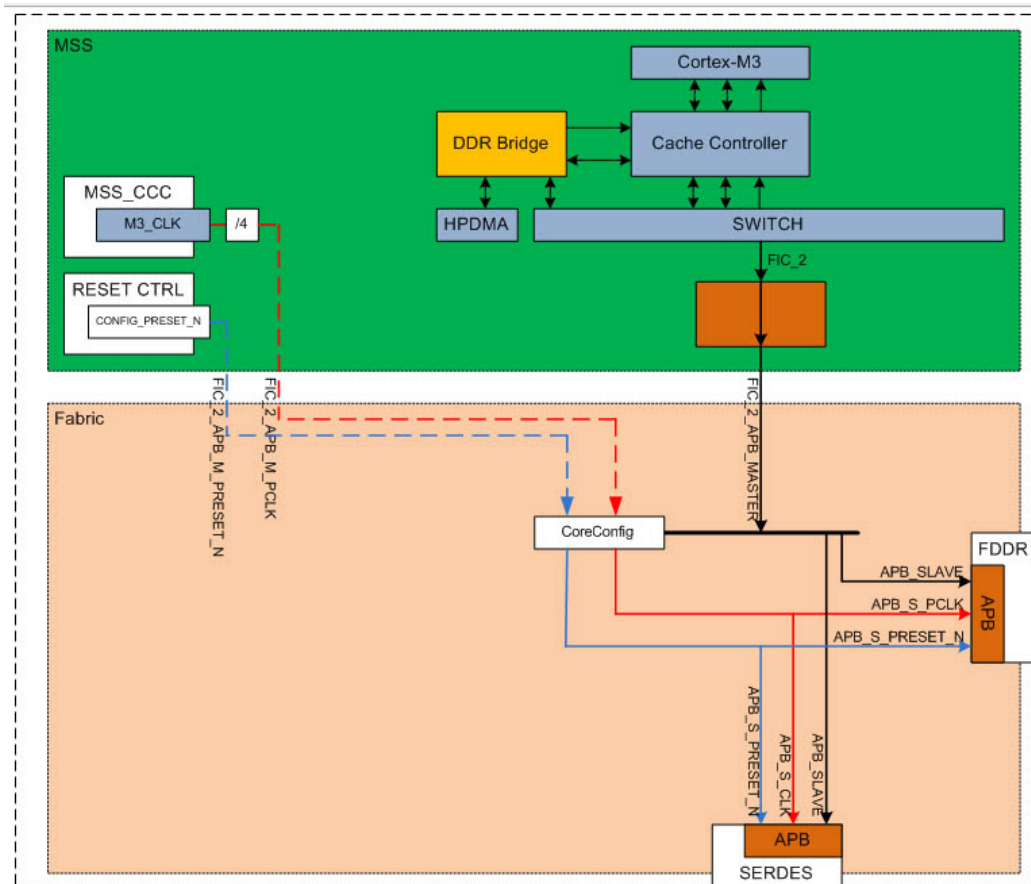

Figure 1-9 • FIC_2 Configurator Overview
1. Open the FIC_2 configurator dialog box (Figure 1-9) from the MSS configurator.